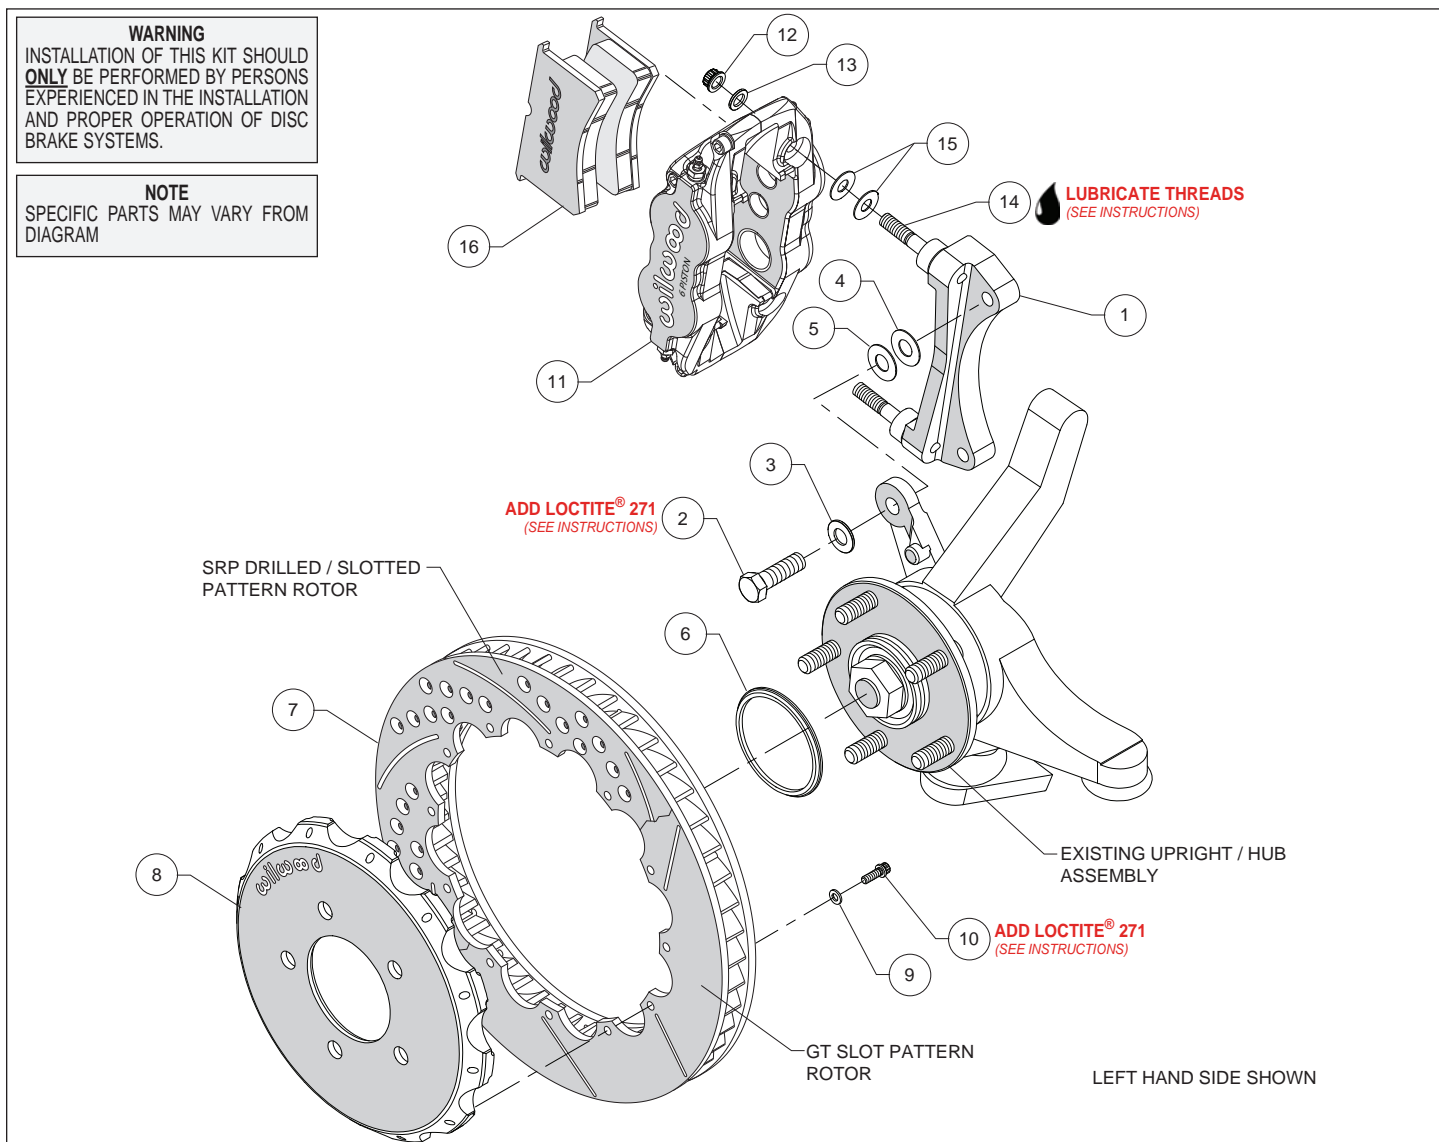
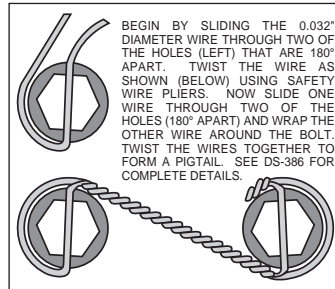

Figure 1. Typical Installation Configuration
Figure 3. Safety Wire Diagram
**Assembly Instructions** (numbers in parenthesis refer to the parts list and Figure 1 on the preceding pages):
- The caliper mount bracket (1) should initially be installed with clean, dry threads on the mounting bolts. Orient the bracket as shown in Figure 1 and Photo 1, and install using mounting bolts (2) and washers (3). Initially place one each .033" thick shim (4), and .015" thick shim (5) on each bolt between the bracket and upright, Figure 1. Temporarily tighten the mounting bolts. **NOTE:** The bracket must fit squarely against the mount bosses on the upright. Inspect for interference from casting irregularities, machining ridges, burrs, etc. Later, after the caliper alignment has been checked, the mount bolts will be secured using red *Loctite*® 271.
- Orient the rotor (7) and the hat (8) as shown in Figure 1 and Photo 2. Attach rotor to hat using bolts (10) and washers (9). Using an alternating sequence, apply red *Loctite*® 271 to the threads and torque bolts to 155 in-lb. For an added measure of security, the bolts may be safety wired using standard 0.032 inch diameter stainless steel safety wire as shown in Figure 3. Please refer to Wilwood's data sheet DS-386 (available at [www.wilwood.com/Pdf/DataSheets/ds386.pdf](http://www.wilwood.com/Pdf/DataSheets/ds386.pdf)) for complete safety wire installation instructions.
- Slide the rotor registration adapter (6) onto the axle register on the axle hub with the smaller O.D. facing outward, Photo 3. Slide the hat/rotor assembly onto the axle hub. **NOTE:** The hat must fit flush against the axle hub flange or excessive rotor run out may result. Install three lug nuts (finger tight) to keep the hat/rotor assembly in place while continuing with the installation.
- NOTE:** This kit contains distinct right and left hand calipers that must be mounted in a specific direction, as described below. Lubricate the caliper mounting studs (14) with lightweight oil. Initially place two .035" thick shims (15) on each stud as shown in Figure 1 and Photo 4. Mount the caliper (11) onto the bracket (1) using lock nuts (12) and washers (13), Figure 1 and Photo 5. Ensure that the caliper is mounted so that the largest pistons are at the rotor exit end of the caliper, in relation to the direction of rotor rotation. Temporarily tighten the lock nuts and view the rotor through the top opening of the caliper. The rotor should be centered in the caliper, Photo 6. If not, adjust by adding or subtracting shims (4 and/or 5) between the bracket and the upright. Always use the same amount of shims on each of the two mounting bolts. Once the caliper alignment is correct, remove the bracket mounting bolts one at a time, apply red *Loctite*® 271 to the threads, and torque to 60 ft-lb.